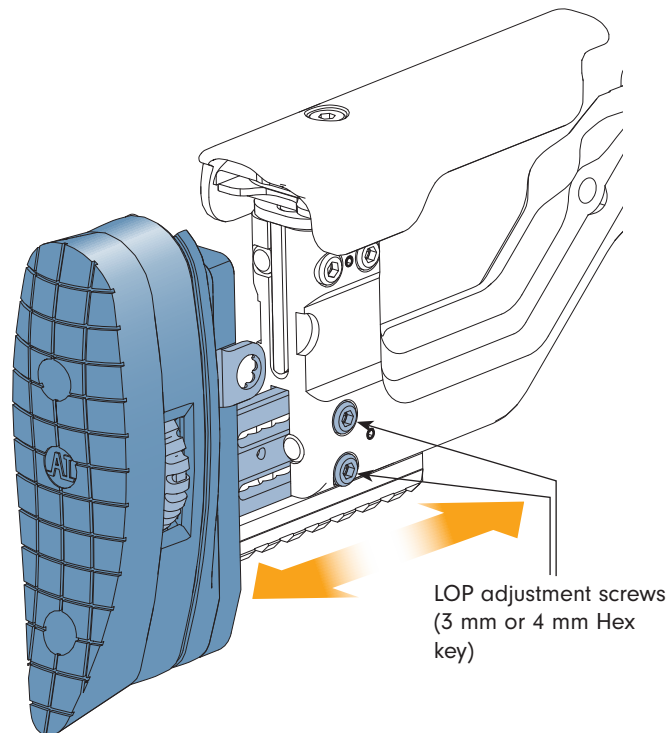

Fig 2-8
- Using a 3 mm or 4 mm hex key, slacken the two butt locking screws located on the lower rear chassis right-hand side (see Fig 2-8).